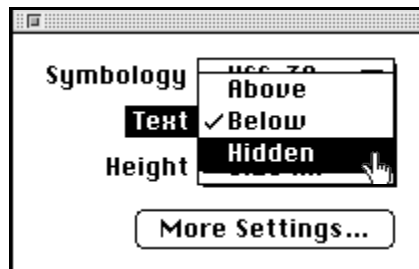

Figure 2-19 Bar Code Info Window - Selecting Hidden Text
- In the Bar Code Info window, select **Hidden** for the Text Location. See Figure 2-19.